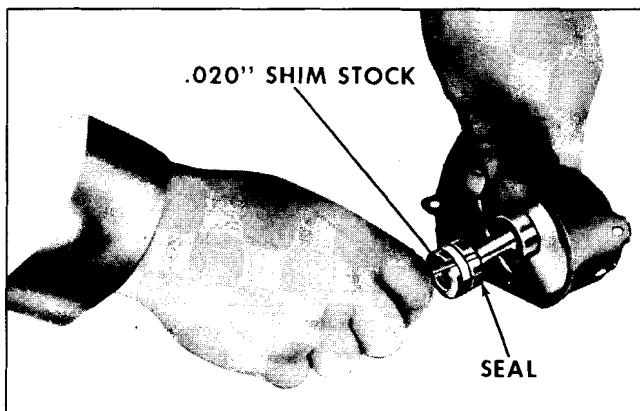

Fig. 4-48 Installing Piston Seal
4. Install new seals, using a piece of .020" shim stock (Fig. 4-48).